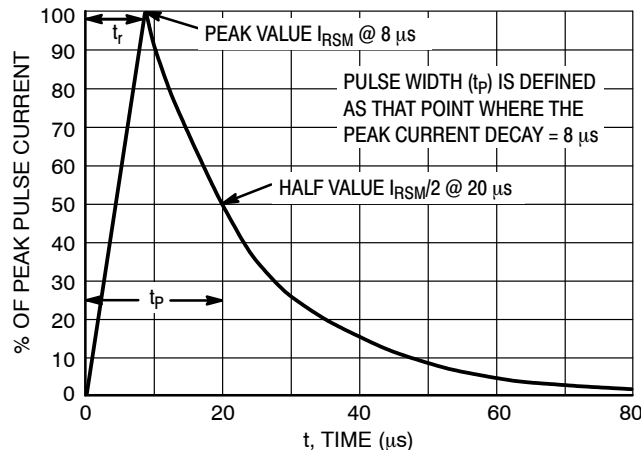

Figure 5. 8 x 20 μs Pulse Waveform
- Surge current waveform per Figure 5.